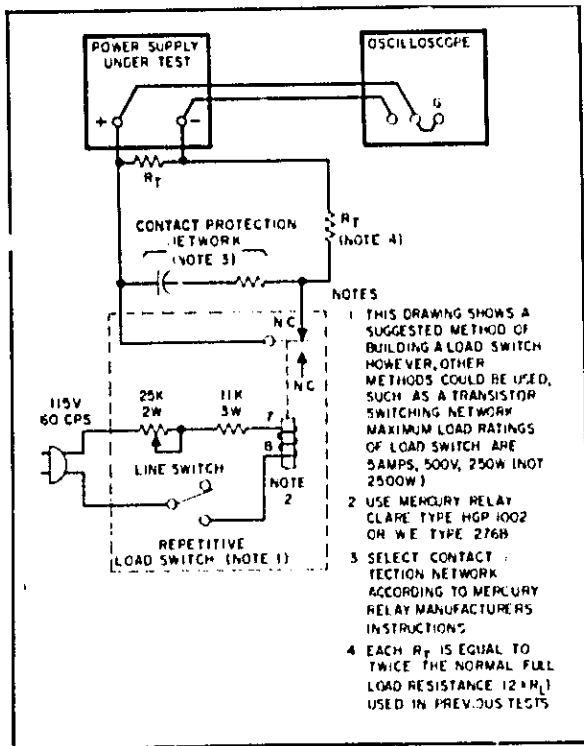

Figure 5-5. Load Transient Recovery Time, Test Setup
5-30 Measurement Techniques. Care must be taken in switching the load resistance on and off. A hand-operated switch in series with the load is not adequate since the resulting one-shot displays are difficult to observe on most oscilloscopes and the arc energy occurring during switching completely masks the display with a noise burst. Transistor load switching devices are expensive if reasonably rapid load current changes are to be achieved. Instead, a mercury-wetted relay should be used for loading and unloading the supply. Connect it in the load switching circuit shown in Figure 5-5. When this load switch is connected to a 60Hz ac input, the mercury-wetted relay will open and close 60 times per second. The 25K control adjusts the duty cycle of the load current switching to reduce jitter in the oscilloscope display. This relay may also be used with a 50Hz ac input.
a. Connect the test setup shown in Figure 5-5. Both load resistors (R_T) are twice the normal value of a full load resistance.